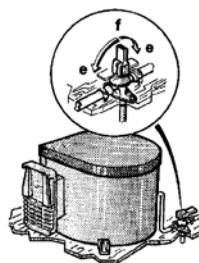

Fig. 1
3. Open safety/drain valve: Lever in vertical position, (Fig. 1) position (f).